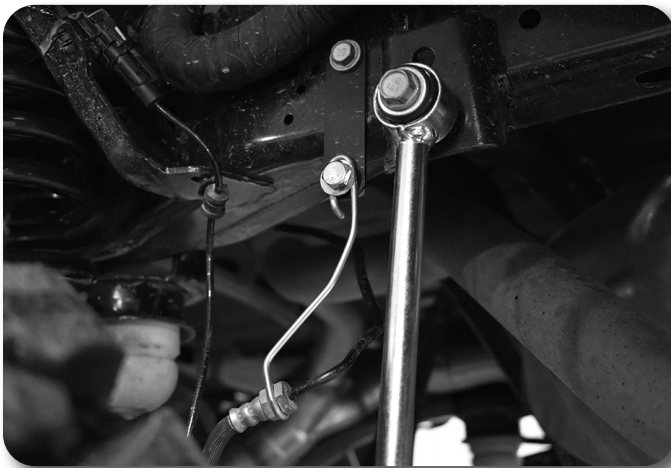

Figure 19
31. Install brakeline drop brackets on the side of the frame rail using OE hardware. Attach brakeline to bracket with 3/8"x1-1/4" bolt, washers, and nut. Tighten to 20 ft-lbs. **Figure 19** you will need to reform stock brake line wire mounts to allow adequate slack at full droop.